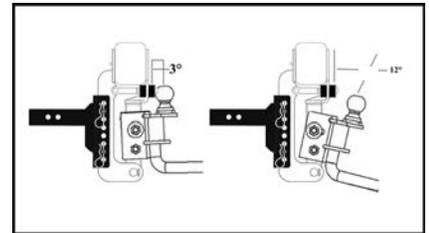

Figure 10: Using spacer washers, find the correct angle needed for your setup.
•Pin 14 and seven hardened washers 13 are supplied in order to gain correct downward angle of spring bars. For an initial fitment, try four spacer washers for top mounted couplers and three spacer washers for bottom mounted couplers. Insert pin 14 and depending on angle or slope of bars that must be gained, use the least amount of washers 13 necessary in order to establish correct angle (see Figure 10).